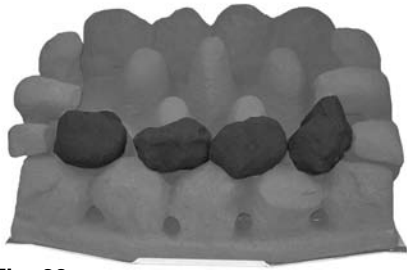

Fig. 23
5. Pick out the smallest two coals and lay to one side, lay the first row of four loose coals on top of the front coal. Ensure the back of the coals are resting on the coal bed and there are even gaps all round (Fig. 23).